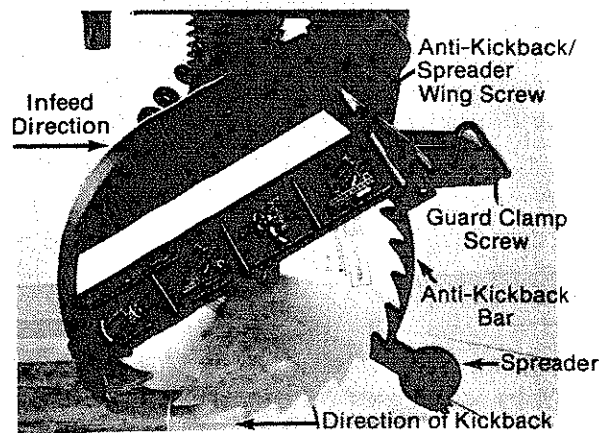

Fig. 103 Blade Guard Position for Ripping
6. Loosen the guard clamp screw and rotate the guard until the guard nose just clears the workpiece. Fig. 103.